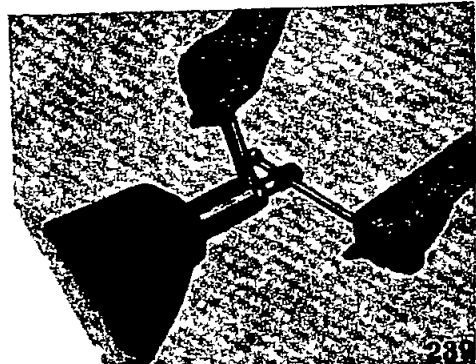

Fig. 14
- (2) Mount the front bearing outer race in the carrier.
For mounting the front outer race, take off at first the adaptor (A) from the front end of the carrier and fix the tool at the side of stud in opposite side, tighten the screw as to be the center of carrier as shown Fig. 14 then mount it by using adaptor (C) as in a way of mounting the rear outer race.